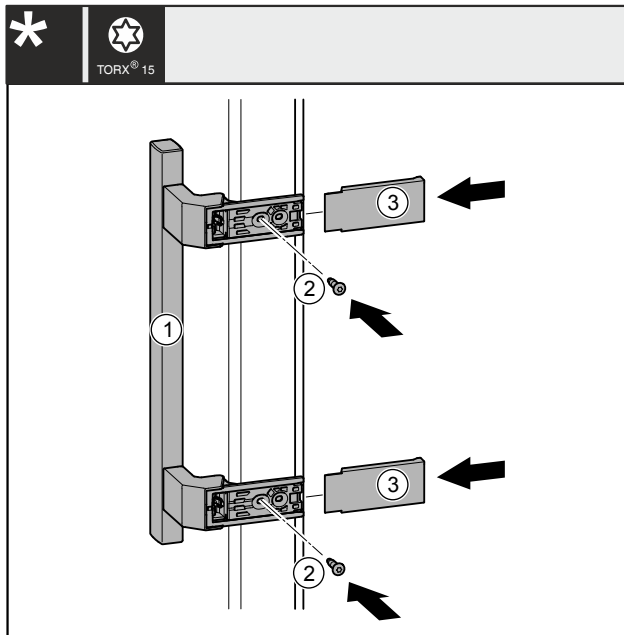

Fig. 41
- Place the handle Fig. 41 (1) on the opposite side.
- Tighten screws Fig. 41 (2) with screwdriver.
- Position the covers Fig. 41 (3) on the side and slide them on so that they click into place.